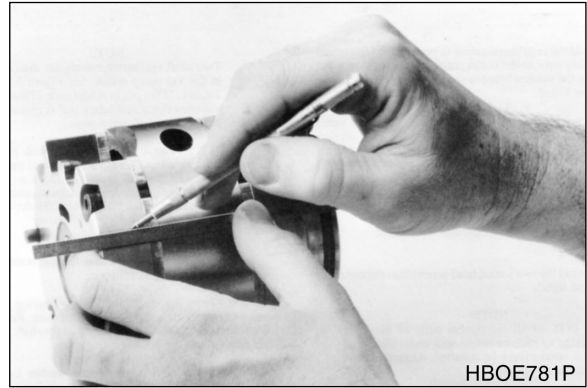

Figure 13
B. Scribe a line across outer surface of cartridge kit. (See Figure 13.) Scribe marking will provide a reference for parts during assembly.